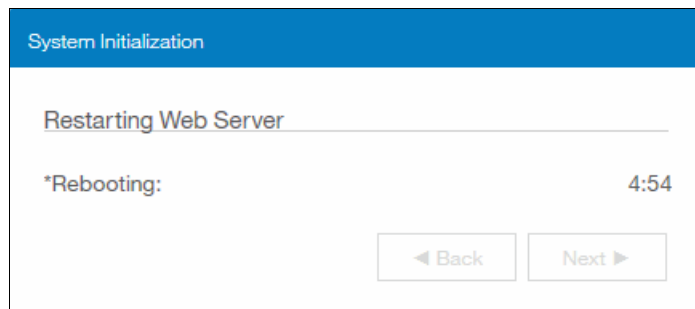

Figure 6-52 System initialization restarting web server pane
14. The System Initialization Restarting Web Server pane is displayed (Figure 6-52).